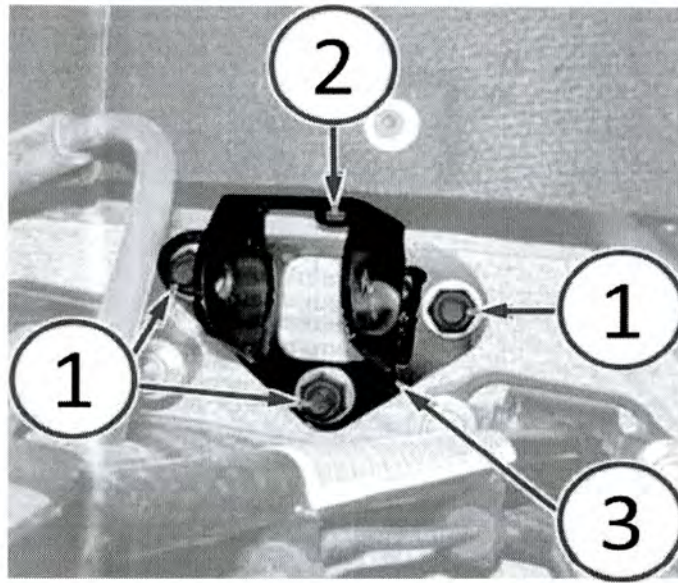

Fig. 3 Remove Shock Absorber Upper Bracket
- 6. Remove and discard the nuts (1) from the shock absorber bracket (Fig. 3).
- 7. Remove and discard the bolt (2) from the shock absorber bracket (Fig. 3).
- 8. Remove the shock absorber bracket (3) from the vehicle (Fig. 3).